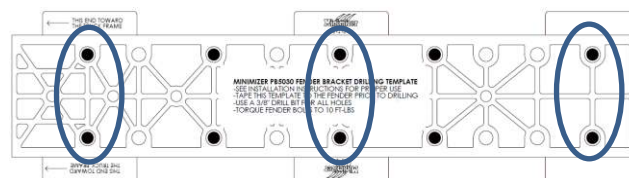

Figure 16
- a. Drill six 3/8" holes through the fender. Use the paper template as a guide at the locations circled below in Figure 16. One template is provided for every PB5030 bracket.